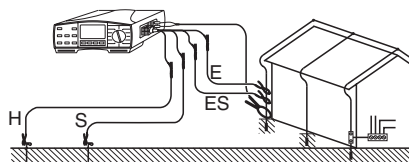

Figure 33: Connection of test leads and clamp adapter
- ▶ Connect the 4-pole test lead supplied with the Earth Measurement Set (Cat. No.1227) to the 4-pole measurement connector (17) of the UNITEST EUROtest. Also connect the UNITEST clamp adapter (Cat. No.1245) to both measurement connectors C1 (14) C2/P (15), please refer to Figure 33.
- ▶ Switch on the UNITEST EUROtest using the key 'ON/OFF'. Turn rotary switch 'Measurement Function' to function (12) RE Earth Resistance.
- ▶ Place the earth rods for auxiliary earth and probe in one line, if possible, in accordance with Figure 33. This layout can also be realised by a triangular shape. The distance between probe and earth or probe and auxiliary earth must be a minimum of 20m. Carefully place the test leads making sure that the test leads are not parallel to each other and do not cross to avoid coupling.
- ▶ Connect test leads to earth rods according to Figure 33. Connect the clamp adapter to the earth connector being tested. If desired, this connection information can be retrieved on the measurement instrument using the key 'HELP'. Repeated pressing of the key 'HELP' indicates the various options for connection.